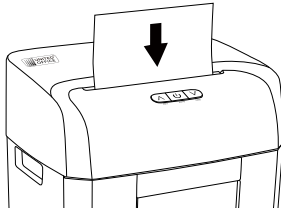

Fig. 3
- ◆ Insert paper into the middle of the cutter opening **4** from above and in portrait format (see fig. 3). The appliance starts automatically and switches itself off automatically if no further paper is inserted.